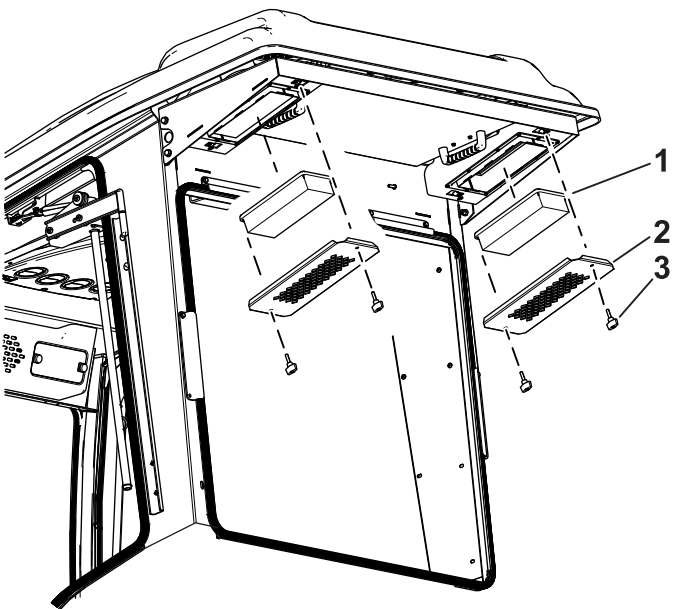

Figure 33
- Remove the thumb screws and the grates from the rear cab air filters (Figure 33).